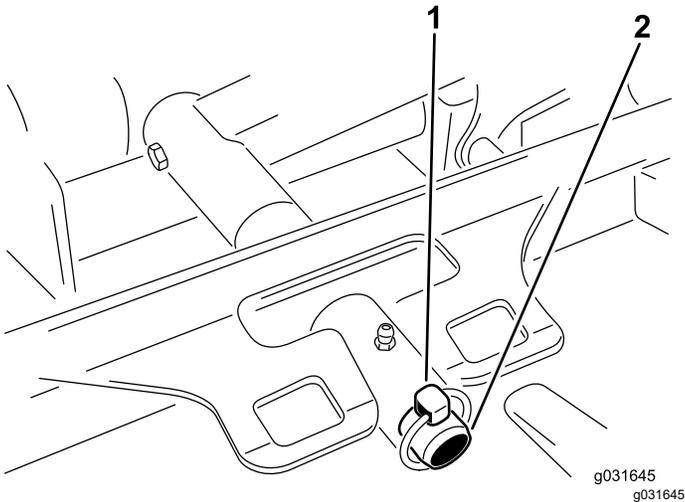

Figure 66
- Remove the lynch pin or retaining nut securing the deck carrier frame to the lift-arm-pivot pin (Figure 66).
- Slide the deck-carrier frame onto the lift-arm-pivot pin and secure it with the lynch pin or retaining nut (Figure 66).